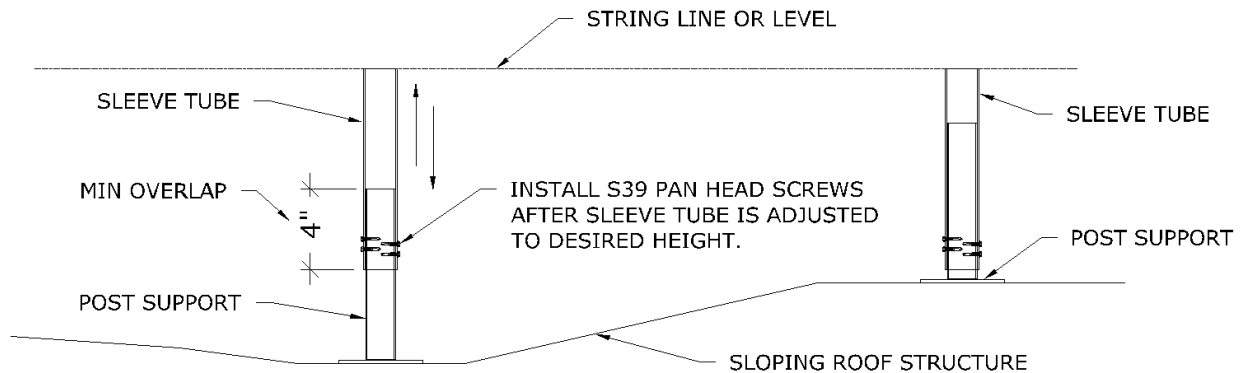

FIGURE 5
To install adjustable posts, first mount the Round Post Support to the roof structure. Next, slip the Sleeve Tube over the post and adjust the desired height. Holding the Sleeve Tube at the proper height, fasten it to the post with Pan Head Tek Screws, P/N S39. Typically, (4) S39 screws are used for this connection, unless otherwise specified in your shop drawings (if applicable). The Sleeve Tube must overlap the Post Support by at least 4" (see Figure 5).